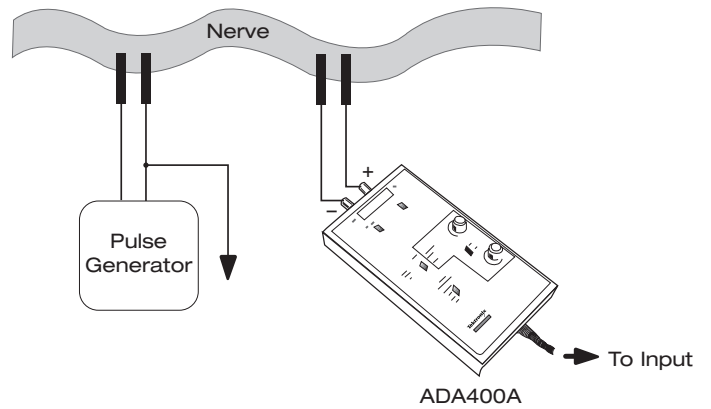

Figure 7. Differential Measurements with One Grounded Input Signal.
**Signal Sources.** Connecting the stimulus pulse generators through stimulus isolators presents the stimulus pulse across a discrete area. Leakage currents to ground through the specimen are thus avoided. Stimulators with one lead grounded could produce large ground currents through the specimen. If these currents flow through the response pick off point, the resulting potential drop will show as an unwanted signal. If a grounded stimulator is used, the grounded electrode should always be placed between the signal electrode and the measurement electrodes, as shown in Figure 7.